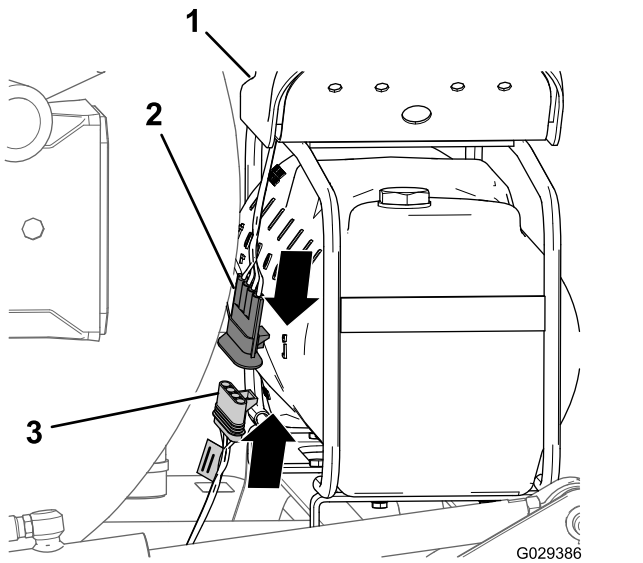

Figure 146
1. At the end of the 236 cm (93 inch) branch of the wire harness, align the 4-socket connector of the wire harness for the finishing kit with the 4-pin connector of the wire harness from the compressor (Figure 146).
2. Insert the 4-pin connector into the 4-socket connector (Figure 146).